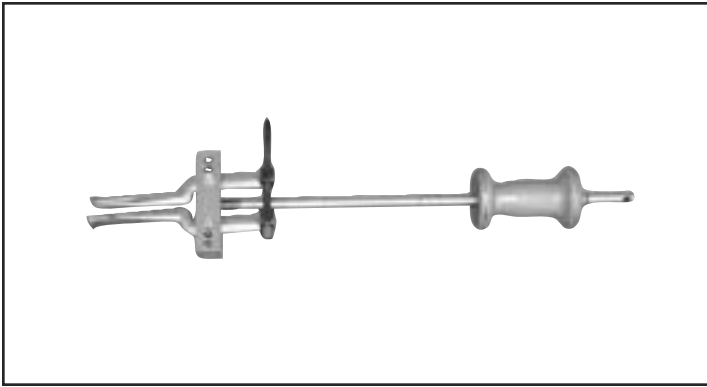

FIGURE 1
- A)** Remove all shaft components from the shaft, (22), (i.e., keys, wire rings, nuts). To aid in reassembly of the motor, make a "V" shaped set of lines from the endcover to the housing using either paint or a marker. With the shaft facing down, secure the motor in a vise by clamping onto the housing, (9). Loosen and remove the seven bolts, (21), holding the motor assembly together. Remove the endcover, (19), from the motor.
- B)** Remove the balance plate, (17), rotor set, (16), and the manifold, (15), from the motor. Remove all seals from the components and discard. (Caution - when removing the balance plate, do not allow the three check balls, (18), to fall out of the plate.) (Caution - do not allow the rolls to drop out of the rotor set assembly when removing it from the motor.) Remove drive link, (14), from the motor and lay aside. Remove the thrust bearing, (13), from the housing and lay aside. From the front of the housing, gently tap the shaft, (22), upward and remove through the rear of the housing.
- C)** Using a slide and hammer type bearing puller, (see Figure 1), remove the rear housing bearing, (12), from the housing. Remove the thrust bearing, (11), and lay aside, remove the thrust washer, (10), and lay aside. Remove the shaft seal, (5), and discard, remove the back-up seal, (4), and discard, remove the metal shim, (3), and discard. Turn the housing over and remove the dust seal (1).